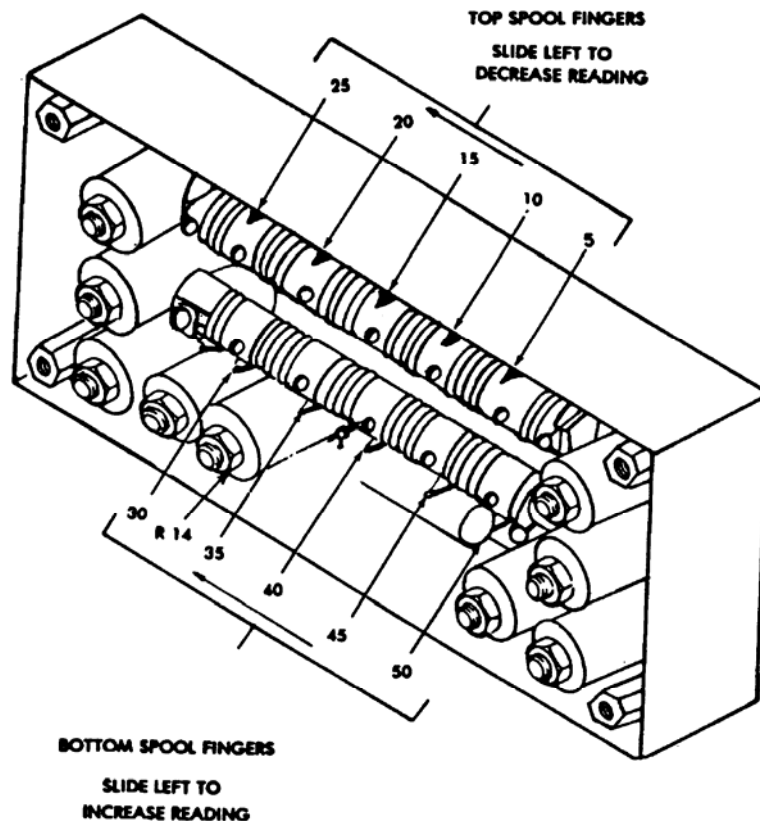

Figure 4. Calibration arrangement.
- (7) After matching errors are obtained, apply loads to any cell in 3000 pound increments.
- (8) Remove TI panel.
- (9) Remove cover of board and component assembly (fig. 4).
- (10) Adjust resistor SPOOL FINGERS (fig. 4) for best linearity. (R)
- (7) After matching errors are obtained, apply loads to any cell in 5000 pound increments.
- (9) Remove cover of board and component assembly (fig. 4) for best linearity.
- (10) Adjust resistor SPOOL FINGERS (fig. 4). (R)